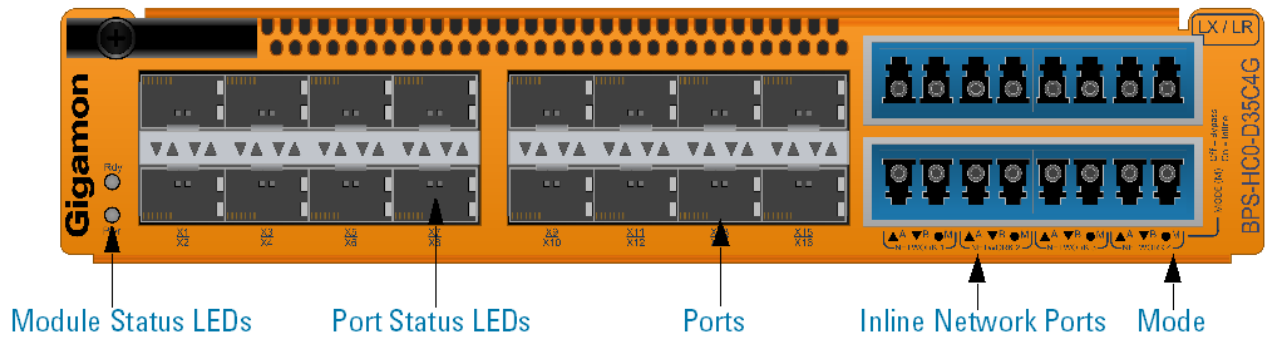

Figure 15 Bypass Combo Module BPS-HC0-D35C4G
- Bypass Combo Module with four LX/LR (singlemode) inline network port pairs and sixteen regular SFP+ port cages (BPS-HC0-D35C4G) (Figure 15 Bypass Combo Module BPS-HC0-D35C4G)